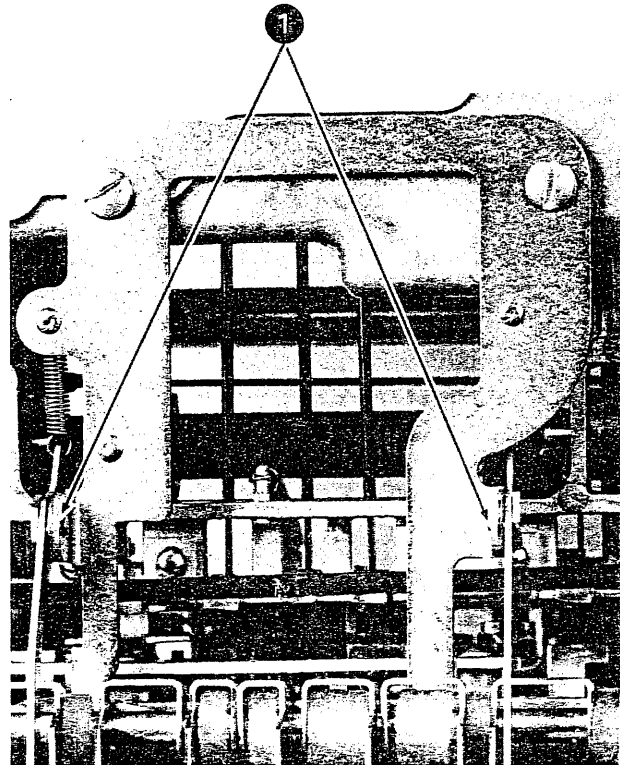

Figure 4-3. Cycle-Clutch and Cycle-Shaft Removal (Step 8)
8. Remove the two pivot screws (No. 1, Figure 4-3).